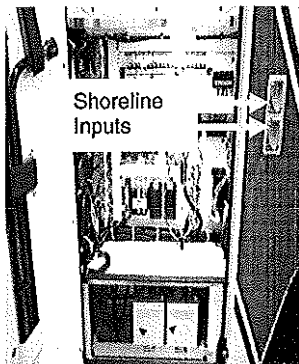

Fig 1: Shoreline Inputs
1. Ensure all shoreline cords are pulled out of the shoreline inputs (Fig 1).